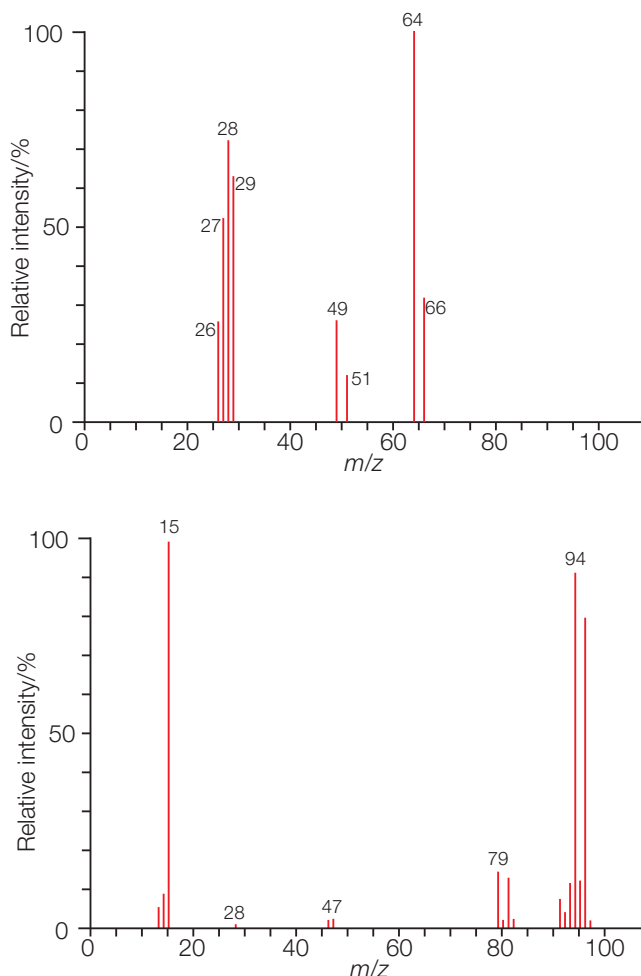

Figure 9.19 ▲
- 22** One of the mass spectra in Figure 9.19 is bromomethane and the other is chloroethane. Match the spectra to the compounds, and identify as many fragments in the spectra as you can.